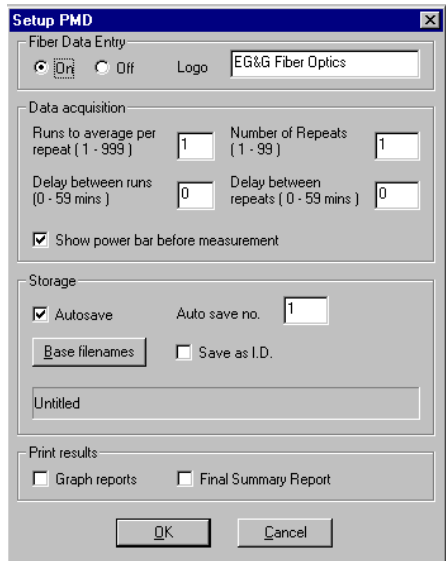

Figure 2-4: PMD Setup Details
8. Click “EDIT, Setup PMD.” Fiber Data entry allows you to manually enter fiber details before each entry. The Setup PMD box displays. (See Figure 2-4: PMD Setup Details.)